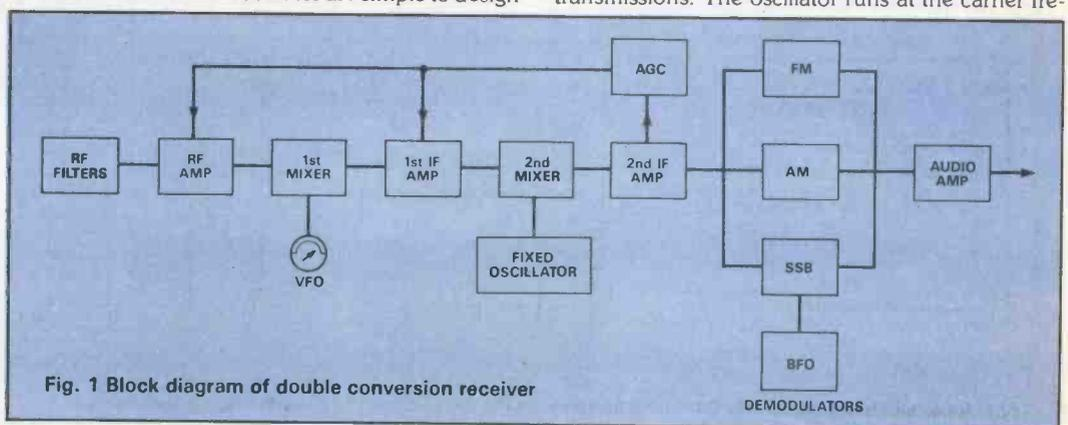
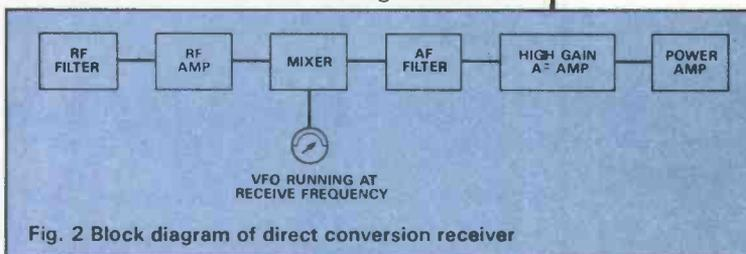

Fig. 1 Block diagram of double conversion receiver
Fig. 2 Block diagram of direct conversion receiver
Commercial receivers use either double conversion techniques shown in Fig. 1 or the simpler single conversion type where the first IF amplifier, the second mixer and its oscillator are left out but high cost crystal filters are included to keep the bandpass within acceptable limits. The provision of three detectors for AM, FM and sidebands and either twin stable oscillators or crystal filters for bandwidth control increases the cost. Fig. 2 shows the direct conversion technique; there is one stable oscillator which actually runs at the same frequency as the signal being received. Filtration is carried out at AF where the use of an inductor/capacitor filter is easy to design and build. Direct conversion receivers are primarily designed for use with single sideband, carrier wave (CW), and morse transmissions. The oscillator runs at the carrier fre-
The block diagram for the radio is shown in Fig.2 An important design requirement is the stability of the single oscillator which in this case runs from 14.000 to 14.350MHz. This oscillator must be stable to within a few Hertz after a short warm-up period otherwise the user will forever be returning the radio. The oscillator needs to be settable to within about 100Hz so that the oscillator control can be calibrated in Megahertz otherwise a conversion chart can be drawn up.